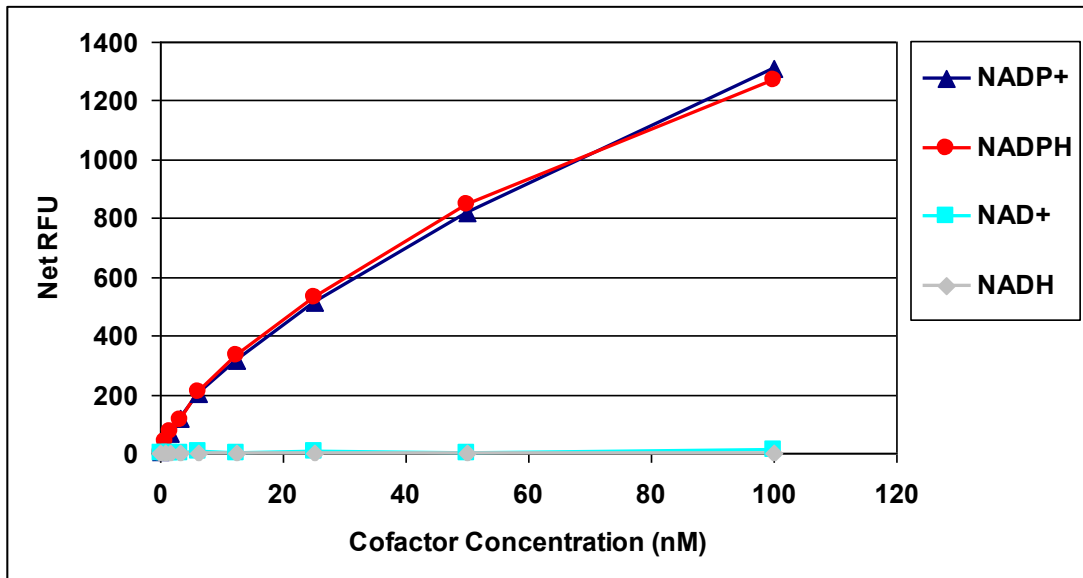

Figure 2: NADP⁺ Standard Curve and Specificity of Assay for NADP⁺ and NADPH. NADP⁺, NADPH, NAD⁺, and NADH, were tested in the NADP⁺/NADPH Assay Kit.
2. Plot the corrected fluorescence for the NADP⁺ standards against the final concentration of the standards from Table 1 to determine the best slope (nM⁻¹). See Figure 2 for an example standard curve.